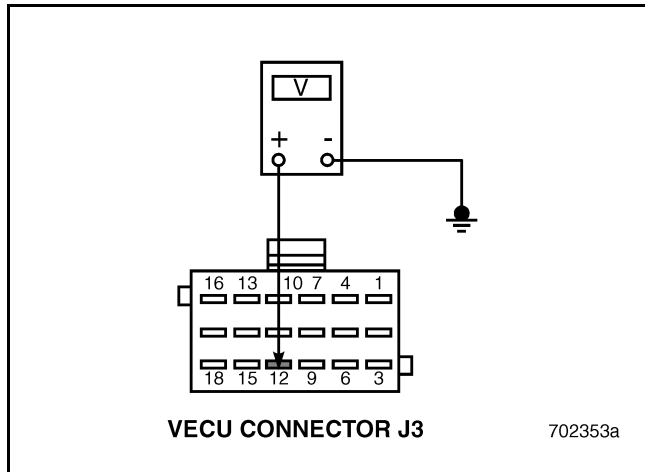

Figure 471
5. Measure the voltage between VECU connector J3, pin 12 and a good ground (see Figure 471).